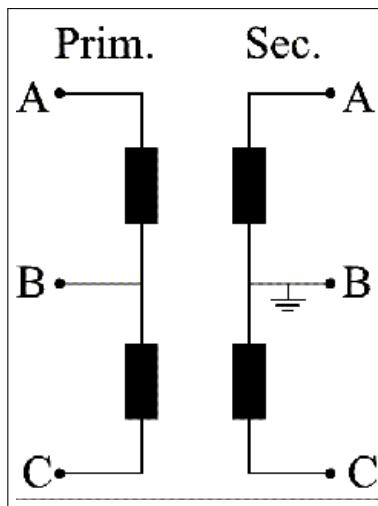

Figure 33.3.2: The V winding connection
7. Optional: For 3 phase VTs Choose a Y or V (broken delta) connection for the winding connection. A V connection is illustrated in figure 33.3.2. Note that this selection effectively configures both the primary and secondary connections of the VT since it is assumed that a V connected primary winding will always correspond with a V connected secondary, likewise a Y connected primary winding will always correspond with a Y connected secondary.